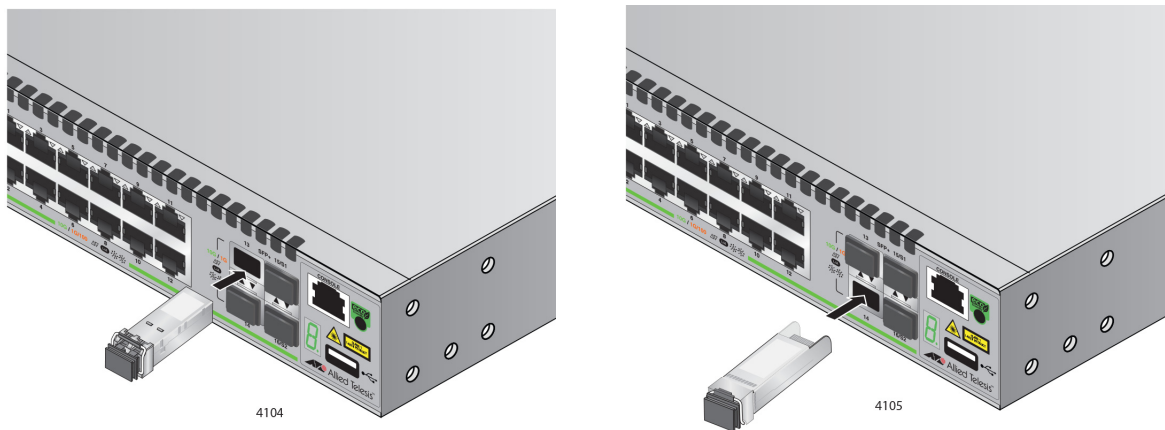

Figure 49. Installing an SFP/SFP+ Transceiver
4. Slide the transceiver into the slot until it clicks into place. See Figure 49.